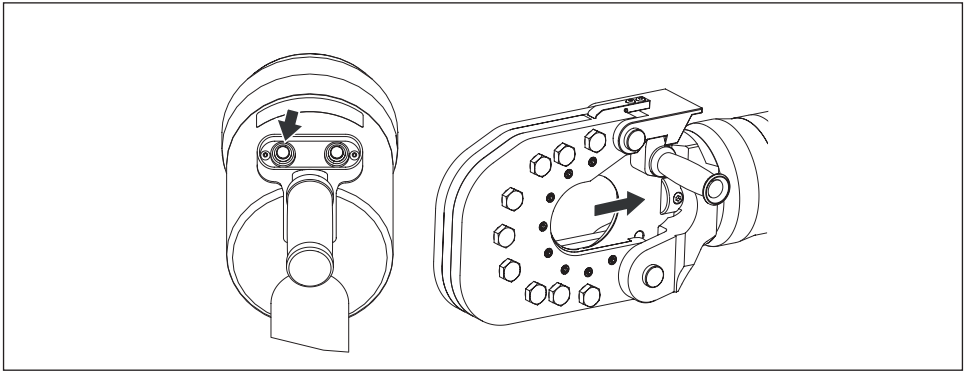

Figure 11, Operation - Retract
- Press and hold the **retract** push button to retract the piston and slide the moving blade backward. See Figure 11.